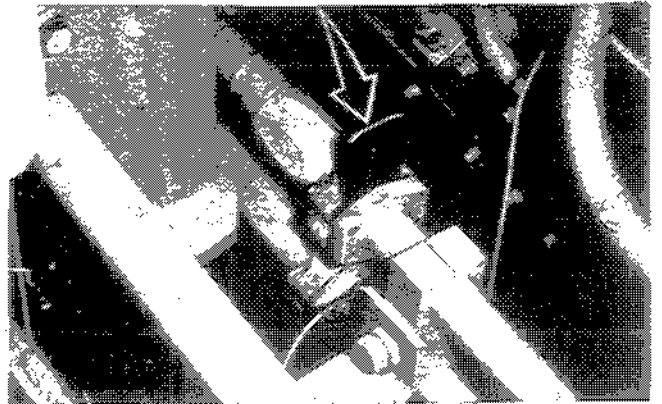

FIG.3-4 TYPICAL USAGE OF A T-79707 FLOW BLOCK PLATE
3.6.5.2 Relieve hydraulic pressure. Refer to Fig.3-5, and locate the dozer power down hose connections at the rear of each cylinder. Loosen the flange capscrews and insert a flow block plate, Fig.3-4, between the tube and hose to block each line. Tighten the flange capscrews.